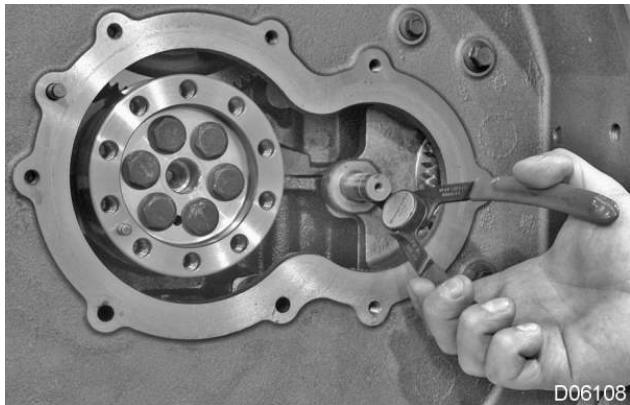

Figure 9 Remove Idler Gear Shaft Inner Retaining Ring (alternate method)
10. Remove the inner retaining ring (Figure 9).